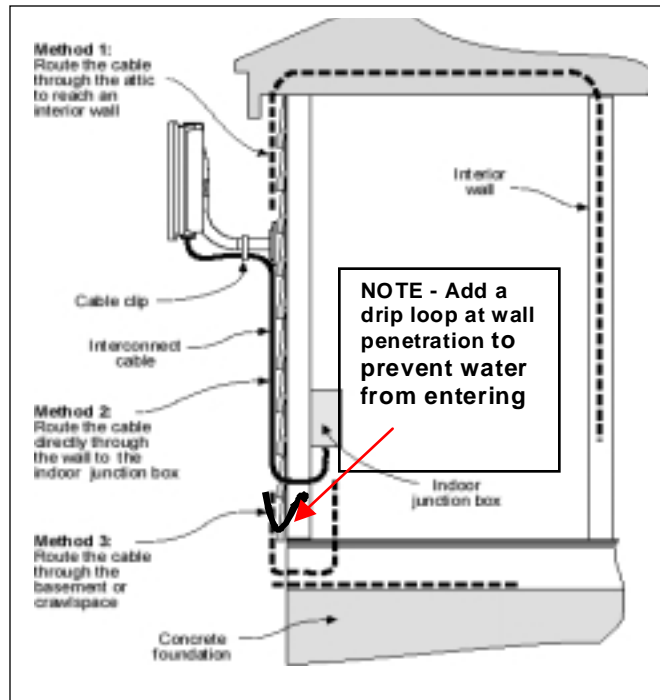

Figure 7-8 Interconnect Cable Routing Solutions
1. Select where the cable will enter the building from the outside (Figure 7-8).